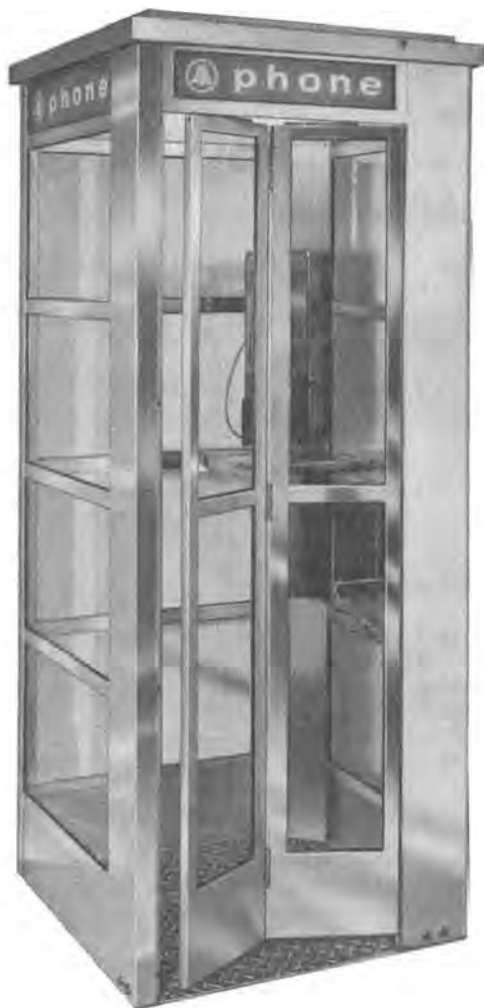

Fig. 1—KS-14611 Airlight Booth
1.02 The KS-14611 booth (Fig. 1) is an outdoor aluminum and glass phone booth designed for single installation only.